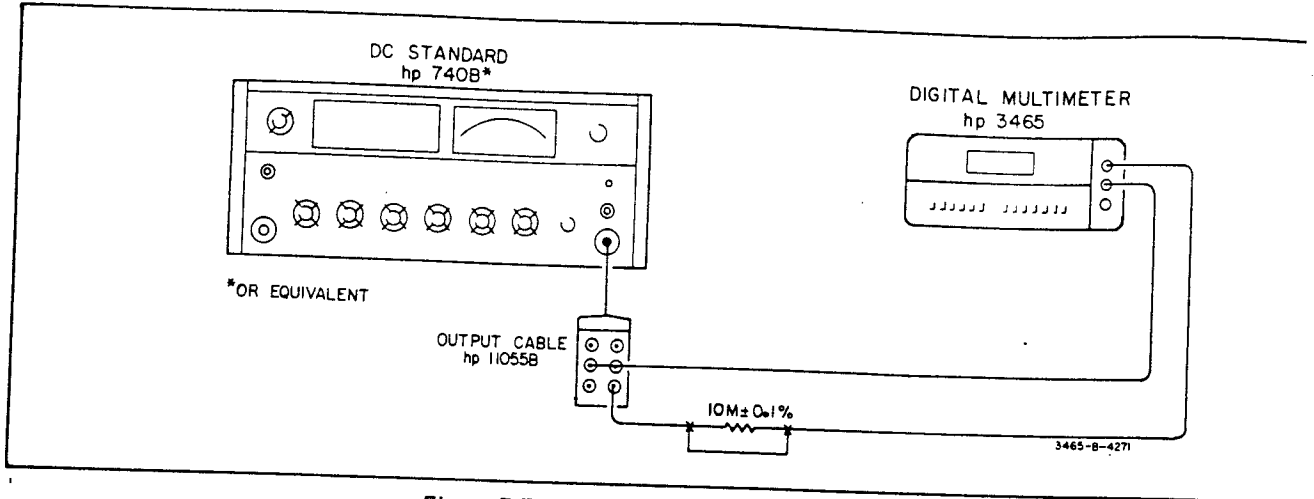

Figure 5-7. DC Voltmeter Input Resistance Test.
- Connect the Multimeter, DC Standard and resistor as shown in Figure 5-7.